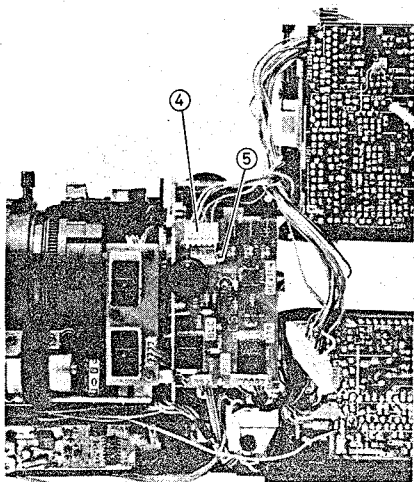

Fig. 2-31 Camera Switch Circuit Board Removal
4. Disconnect connector CN602. (See Fig. 2-31)
5. Remove one (1) screw holding the camera switch circuit board.